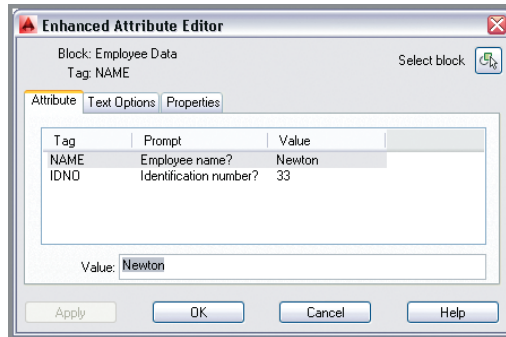

FIGURE 15.34 Editing attribute values in a maximized viewport
16. Now you'll change an attribute value and observe that this change appears automatically in the table through the fields linked to the attribute values. Click the Maximize Viewport icon in the status bar. Double-click the Employee Data block in Dee's office to open the Enhanced Attribute Editor. Type **Newton**, press Enter, type **33**, and press Enter again (see Figure 15.34). Click OK to end the EATTEDIT command.